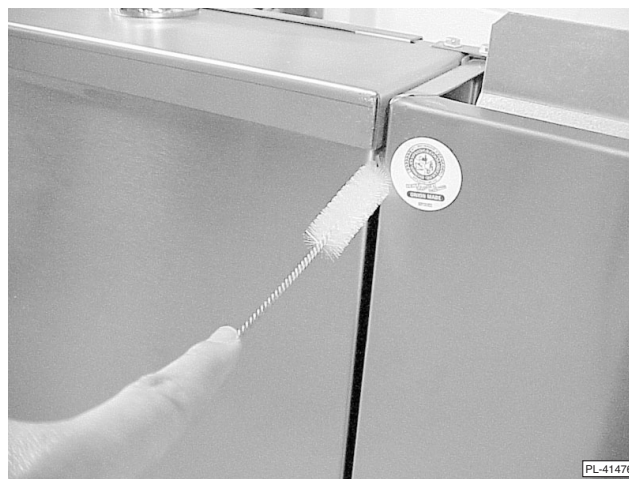

Fig. 17
- a. Insert the brush into the opening and run brush up and down along the opening to remove any debris that may have settled in this area (Fig. 17).